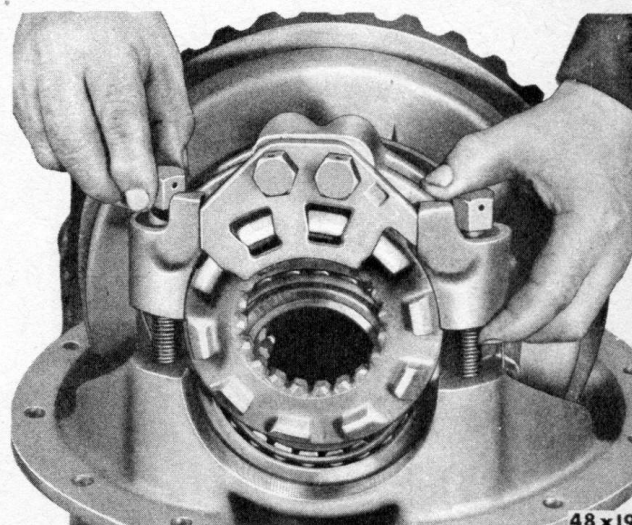

Fig. 64—Removing or Installing Bearing Cap, Adjuster and Lock Assembly
- (7) Remove left-hand differential bearing cap, adjuster and lock as an assembly (Fig. 64) to assure correct positioning of gear on assembly.